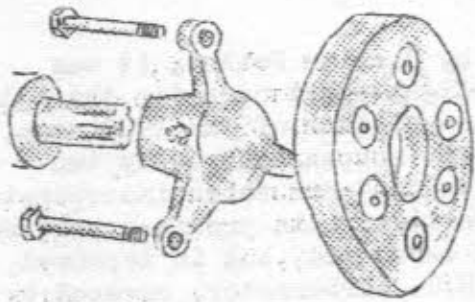
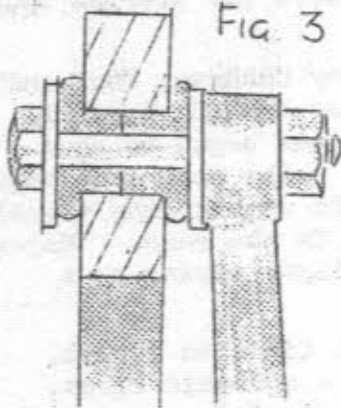
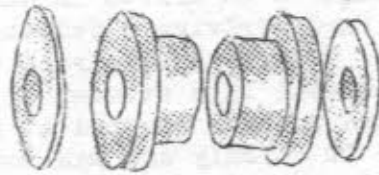
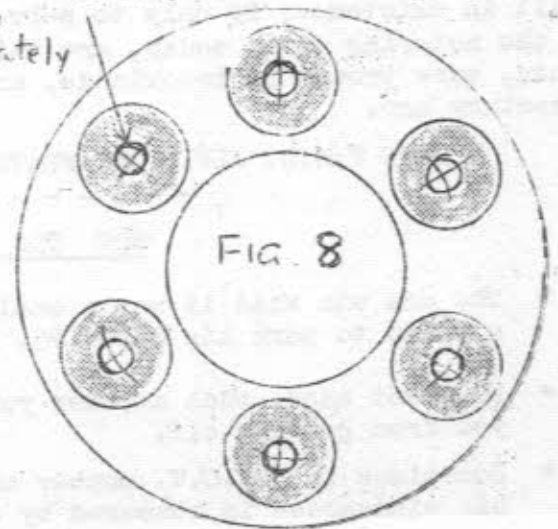

FIG. 1
FIG. 3
FIG. 4
FIG. 8
5) Another variation of my own (Figure 1) is a modification of the Layrub system. The main trouble with the fabrics are that they have too much flexing area between bolt holes down which they can tear. This is particularly bad if the triangular plates are not used. It occurred to me that if the disc could be made of solid alloy, and the required movement confined into a rubber bush or bushes that are well secured into position, wear should be very rare. The alternatives are the Silentbloc bushes ( preferable ) as shown in Figure 2. The disc would have to be accurately machined to suit the bushes, taking great care (Figure 8 ) to mark off the bush centres very accurately, and making sure that the diameter of the bushways ensure a tight press fit of the Silentbloc outer bush. A cheaper, and probably quite reasonable, alternative is the use of simple rubber flanged shackle bushes ( probably standard ones cut down for length to suit ) as in Figure 3 and in exploded form in Figure 4 . I suspect that these bushes, however, might have a tendency to squeeze out under the pressure. These alternatives require also that the thickness of the disc be increased (as with the Apex Belting discs) and this may require a corresponding shortening of the jack shaft on the vintage models. Most post-vintage models would not need alteration.